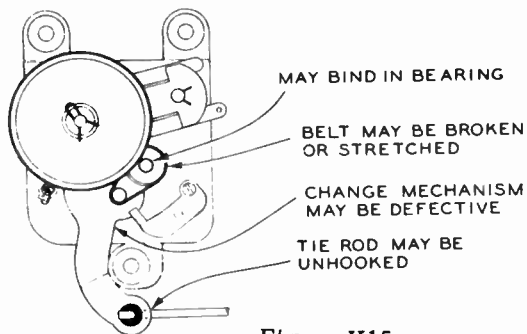

Figure V15.
5. **Speed Selector Will Not Work:** See figure V15.